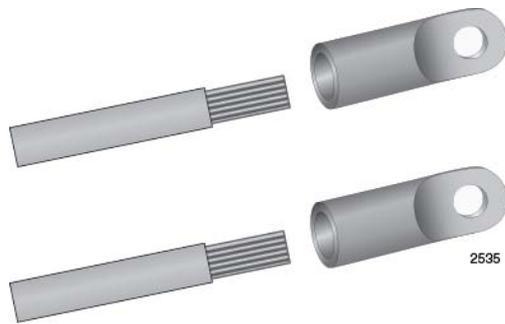

Figure 114. Attaching the Power Wires to the Straight Terminal Lugs
2. Insert the power wires into the terminals included with the power supply and use a crimping tool to secure the wires to the terminals. See Figure 114.